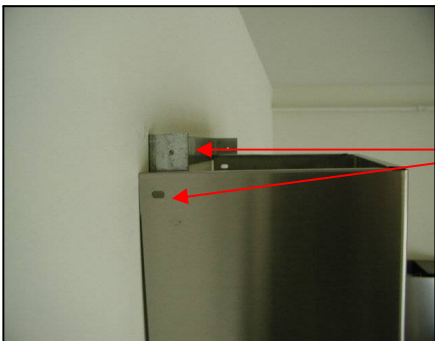

Figure 20
7. Adjust the height of the inner duct cover to the duct cover-mounting bracket. Secure the inner duct cover with two (4x8 mm) screws (provided) as shown in Figure 20.